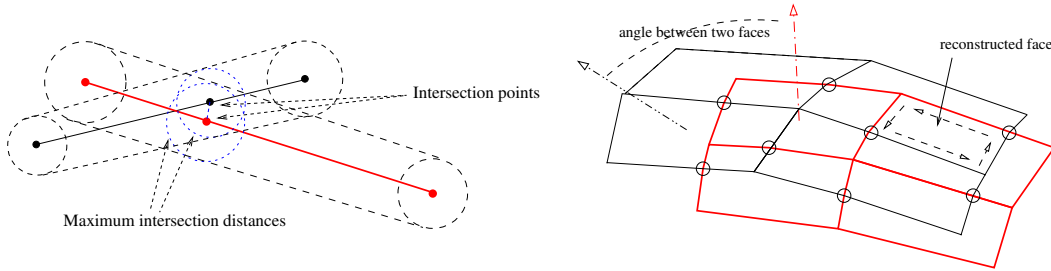

Figure 7: Maximum intersection tolerance and faces normal angle
**fraction  $r$**  assigns value  $r$  (where  $0 < r < 0.49$ ) to the maximum intersection distance multiplier (0.1 by default). The maximum intersection distance for a given vertex is based on the length of the shortest incident edge, multiplied by  $r$ . The maximum intersection at a given point along an edge is interpolated from that at its vertices, as shown on the left of Figure 7;
**plane  $c$**  assigns the maximum angle between normals for two faces to be considered coplanar ( $25^\circ$  by default); this parameter is used in the second stage of the algorithm, to reconstruct conforming faces, as shown on the right of figure 7.